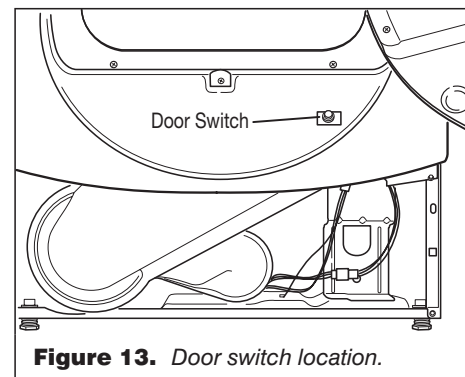

Figure 13. Door switch location.
- Check that the wires between the door switch and machine control electronics are connected. See figure 13 for switch location, and see Accessing and Removing the Electronic Assemblies, page 11.